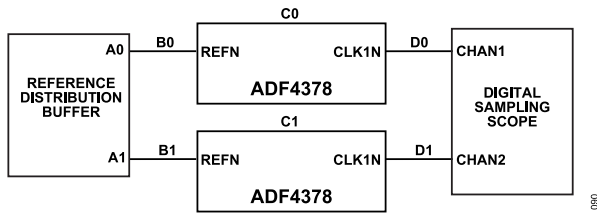
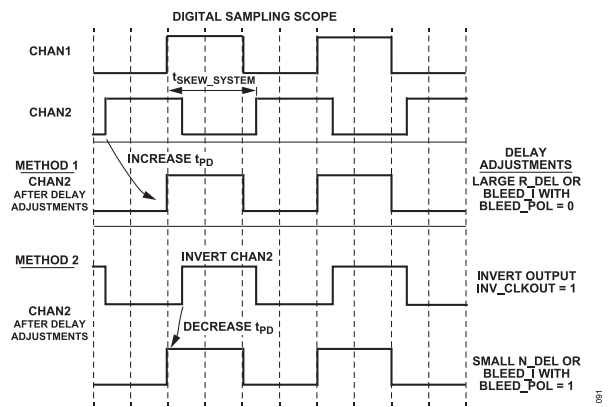

Figure 100. Total System Skew
Figure 101. Skew Adjustment Methods
Due to the controlled  $t_{PD}$  of the ADF4378 devices, it is reasonable to expect that a significant portion of the total system skew ( $t_{SKEW\_SYSTEM}$ ) is due to propagation delay mismatches in traces or cables ( $t_{SKEW\_B}$ ,  $t_{SKEW\_D}$ ), and skew in other components ( $t_{SKEW\_A}$ ) or instruments ( $t_{MEAS\_ERROR}$ ). Figure 100 and Equation 24 provide several sources of possible output skew error in a typical system. The Clock Skew in Large Multi-GHz Clock Trees article outlines the skew trade-offs in component selection, board design, and end-user cost requirements in large clock trees.
Figure 45 and Figure 43 show a general trend that an increasing magnitude of R\_DEL, N\_DEL, or BLEED\_I bit fields, Bits[9:0] causes a small increase in  $L_{NORM}$  and  $L_{1/f}$ . Increases in  $L_{NORM}$  and  $L_{1/f}$  result in clock jitter (see Figure 12 and Figure 15). Therefore, in the most performance sensitive applications, identifying ways to minimize the magnitude of the R\_DEL, N\_DEL, or BLEED\_I bit fields, Bits[9:0] values is required. As an example, Figure 101 provides two skew adjustment methods to minimize the skew in Figure 100. Method 1 only adjusts one of the reference to output delay adjustments provided in Table 39. Method 1 results in an R\_DEL, N\_DEL, or BLEED\_I bit fields, Bits[9:0] maximum adjustment equal to half an output cycle, or  $1/(2 \times f_{OUT})$ . Method 2 minimizes the magnitude of R\_DEL, N\_DEL, or BLEED\_I bit fields, Bits[9:0] by utilizing the output invert along with either R\_DEL, N\_DEL, or BLEED\_I bit fields, Bits[9:0] adjustments. When compared to Method 1, Method 2 results in a lower R\_DEL, N\_DEL, or BLEED\_I bit fields, Bits[9:0] maximum adjustment of a quarter cycle output cycle, or  $1/(4 \times f_{OUT})$ . Method 2 is further described in Table 41.
5. Program skew adjustments per Method 2 for other ADF4378, as shown in Figure 101.